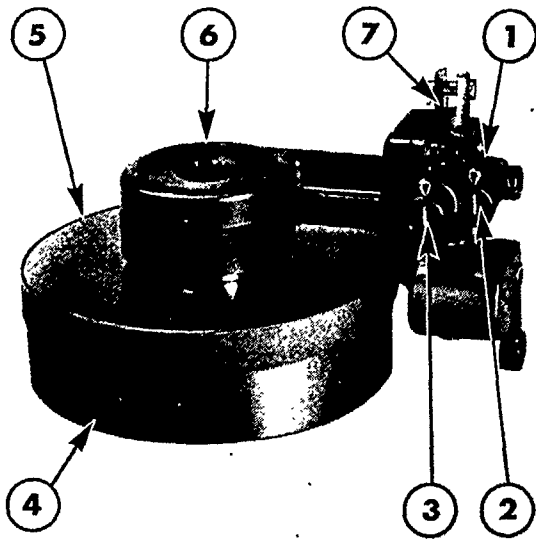

Figure 6
1. With the P.T.O. clutch on a bench, remove the valve assembly and brake band from the clutch housing, Figure 6.